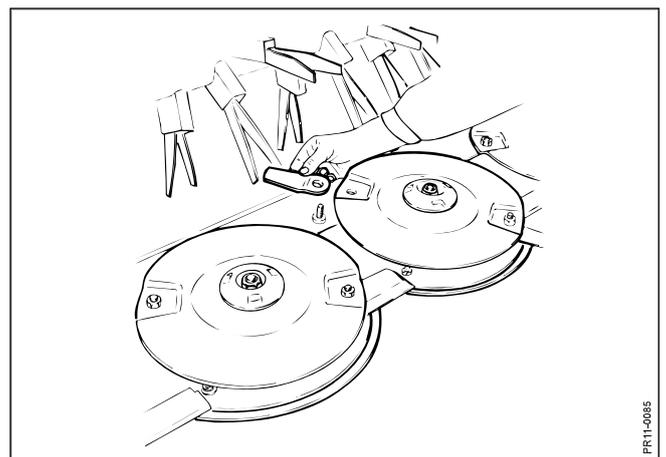

Fig. 6-9
- Fig. 6-9 To obtain a satisfactory harvesting it is important that blades and shearbar are intact and sharp. Replacement of blades is made by dismounting the blade bolt and pull it out from beneath the disc. This is easily done when the blade is in the front position so that the bolt can fall out through the hole in the stone protector. Remove the old blade and mount the new one together with the blade bolt. The blades can be used on both sides by moving the blades from one disc to another with opposite direction of rotation.